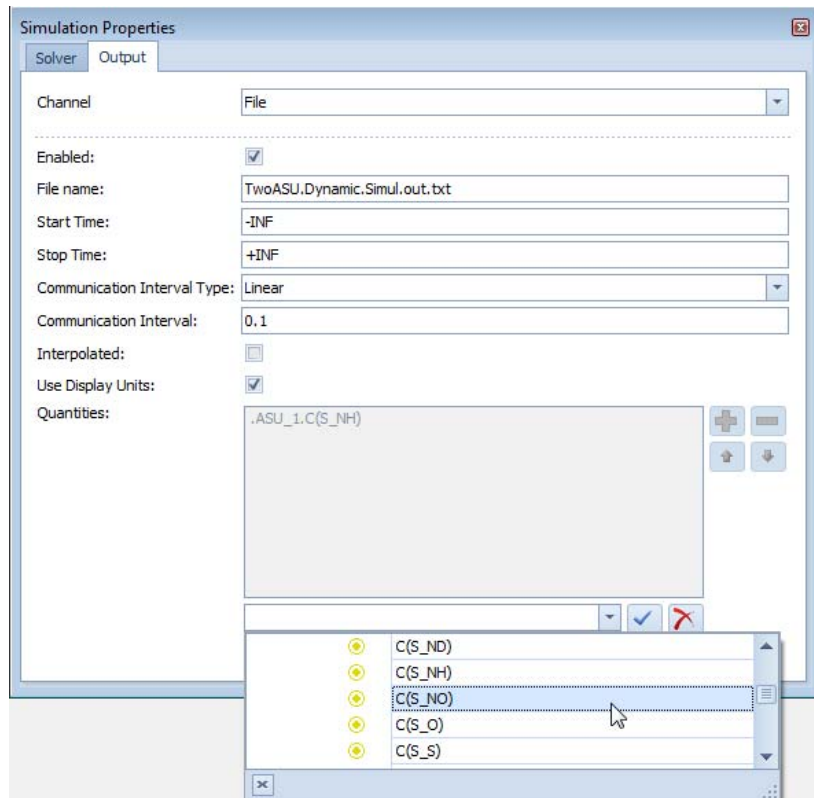

Figure 5.42 Set up a file Output for a Simulation
- Select the “Output” tab page and the “File” channel from the drop-down (cf. Figure 5.42).